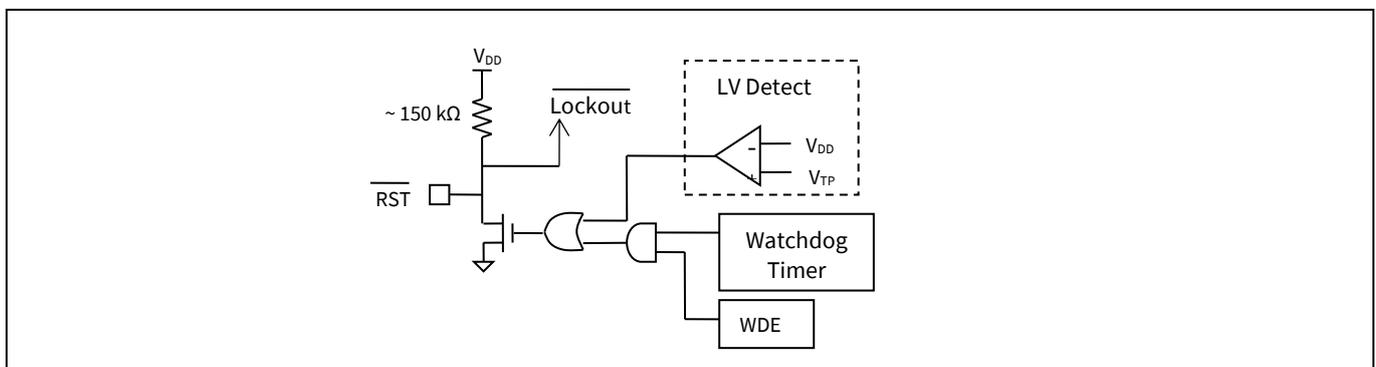

Figure 4 Reset Trigger Sources
There are two trigger sources that can drive reset LOW: a low-voltage (LV) detect circuit and the watchdog timer as shown in Figure 4. At power-up, the $\overline{\text{RST}}$ pin is driven LOW as V_{DD} rises toward its nominal operating value. The point at which $\overline{\text{RST}}$ is released is determined by the V_{TP} (voltage trip point), an internal trip voltage that is always compared to V_{DD} .